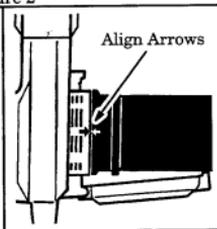

Figure 4
4. Insert the upper vacuum into the vacuum inlet; twist upper vacuum tube clockwise until arrow 2 is aligned with the arrow on vacuum inlet. Figure 4.